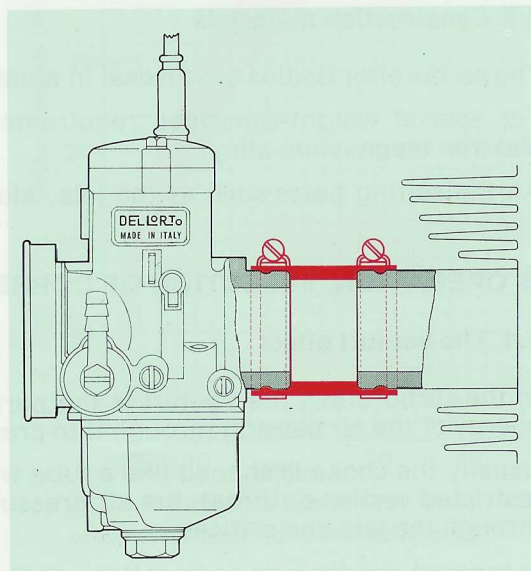

fig. 4
- A-male clamp fixing** (figure 4)